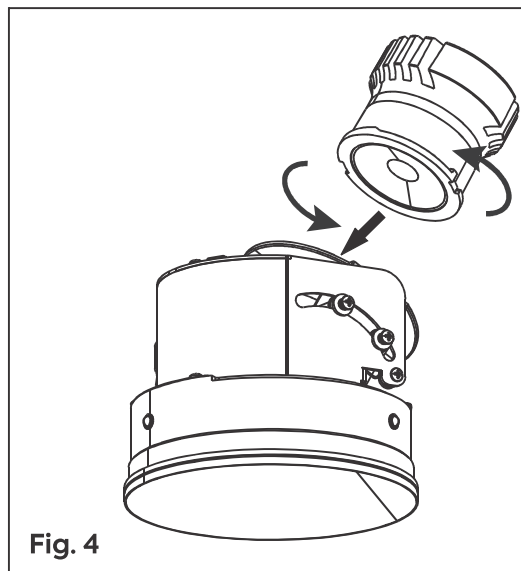

Fig. 4
Step 4: Install the ELIUM® LED module onto the flangeless trim that matches the installed spackle frame **Fig. 4**. For Gear Adjustable trims, refer to the Elium® Gear Adjustable Trim Instructions to adjust the trim.